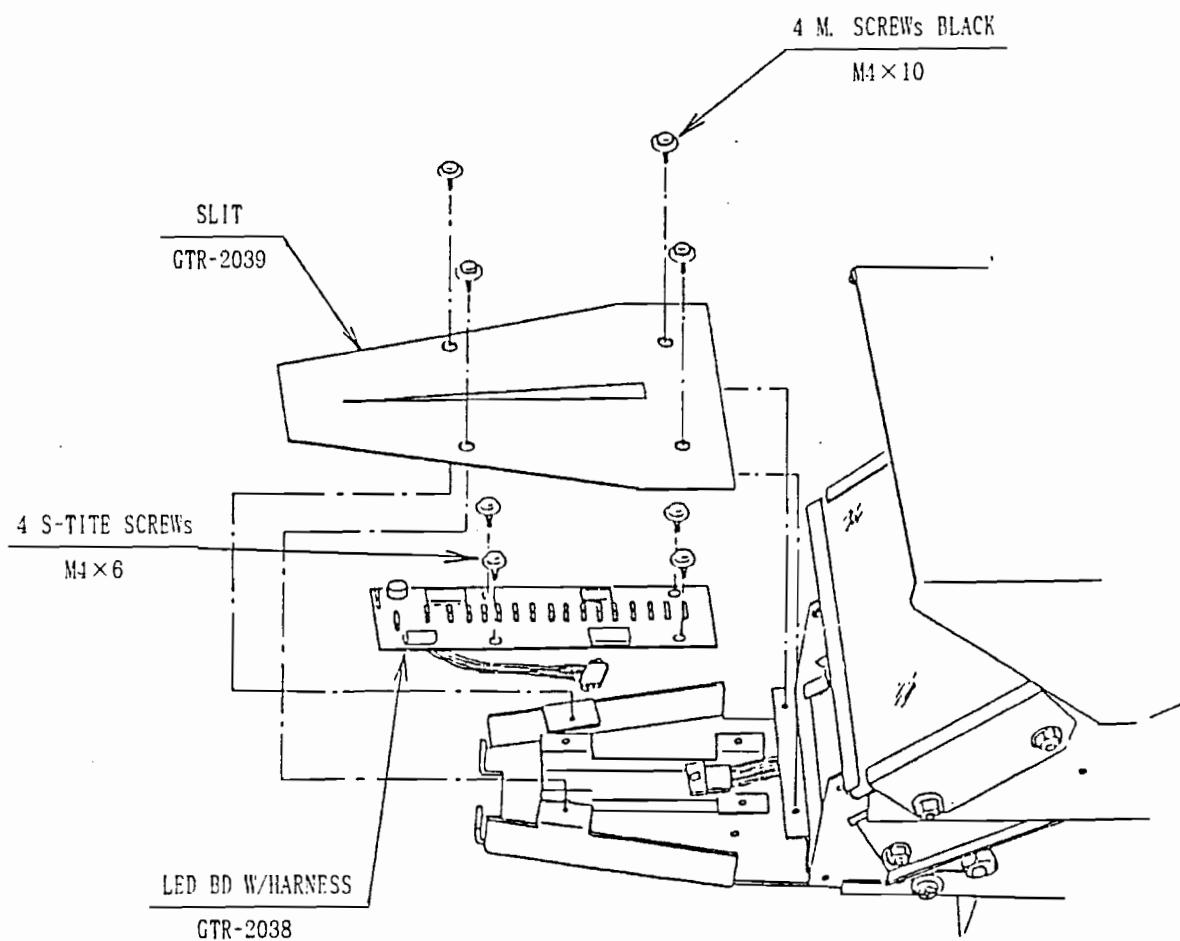

FIG. 2
- ① Take off the 4 machine screws black (M4×10) and the slit.
- ② Take off the 4 S-TITE SCREWS (M4×6), disconnect the CONNECTOR and remove the LED BOARD (sec FIG. 2 ).